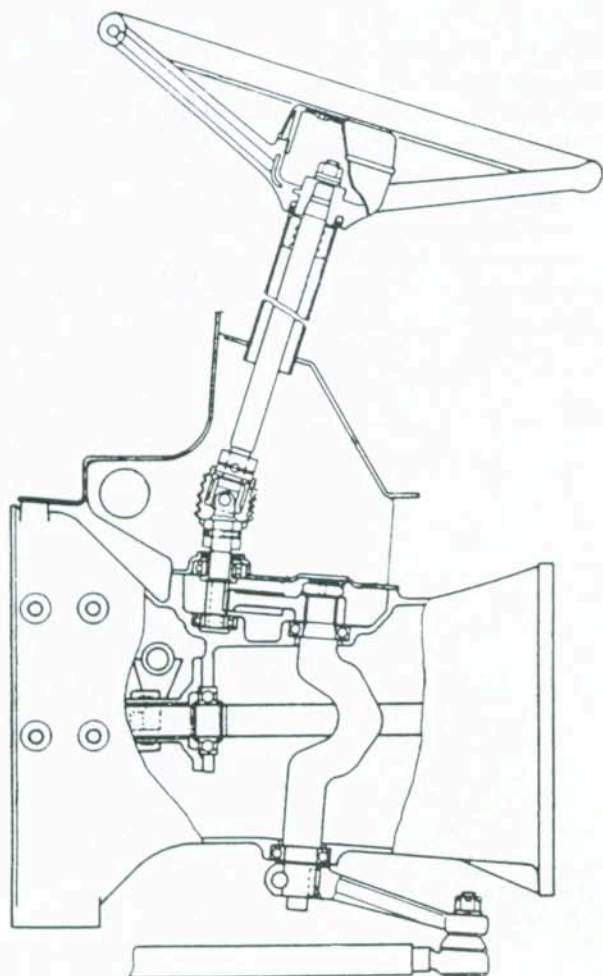

Fig. 6—Cross section drawing of steering gear typical of all models. Refer to Fig. 7 for exploded view.
6. A cross section drawing of the manual steering gear assembly is shown in Fig 6. Note that the steering gears are contained within a cavity in the top of the clutch housing and that the steering shaft extends through the clutch housing. The steering ratio is 10:1 for all 1010 models and 13:1 for all 1020 models. Some differences will be noticed, including the number of teeth on gears (12 and 15—Fig. 7) and shaft (17) may be straight on some models.